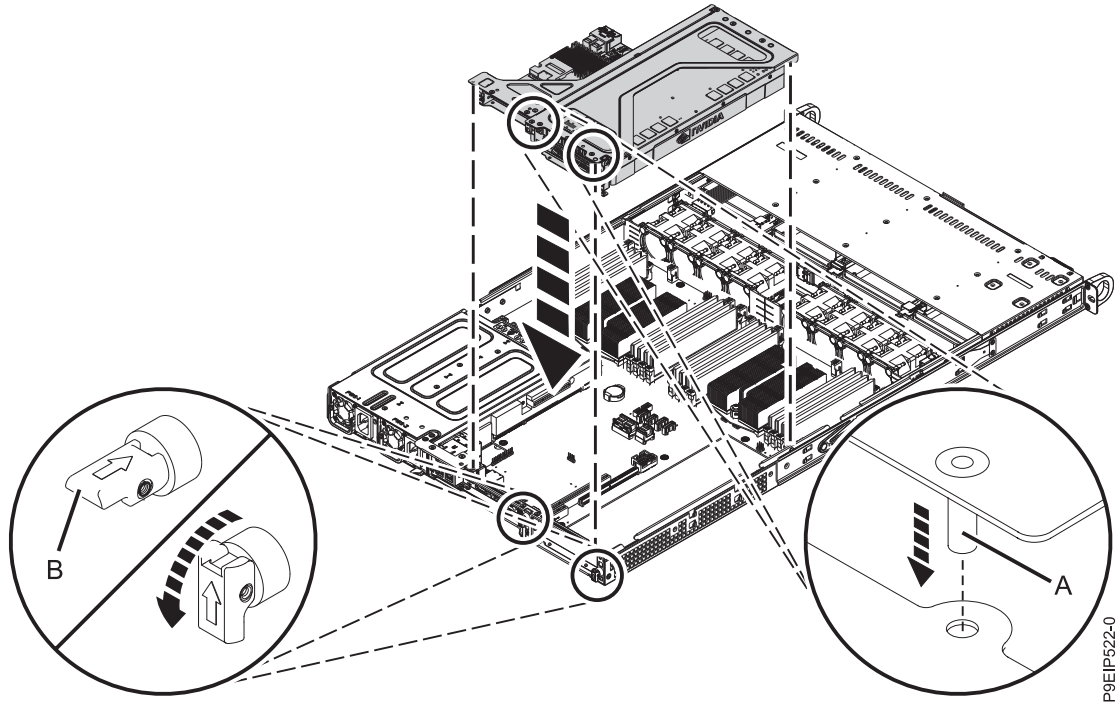

Figure 45. Replacing the PCIe riser
- d. Place the PCIe adapter riser and the cards it contains into the system backplane as shown in Figure 45 on page 39.
- 1) Ensure that the PCIe holder release pins (B) are retracted, so the arrows point into the system.
- 2) Use the alignment pins (A) and slots to help you properly insert the riser cards and replace the cover